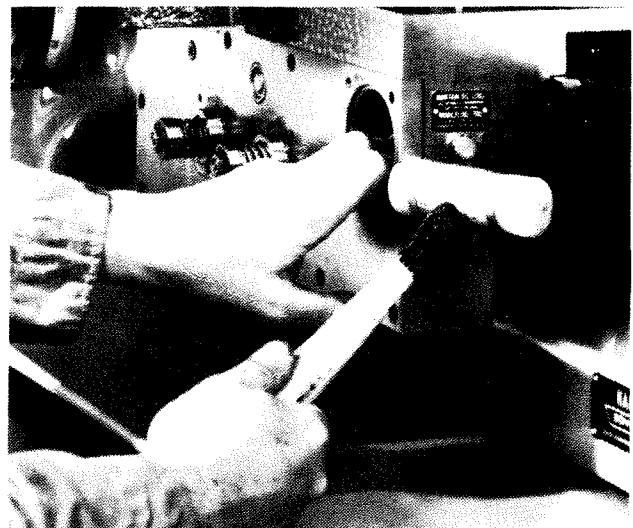

Figure 2.6 - Apron Cover Removal
- a) Pull the cover outward with the left hand while striking the edge of the cover with a soft-faced hammer until a crack appears in the sealant. Refer to Figure 2.6 .